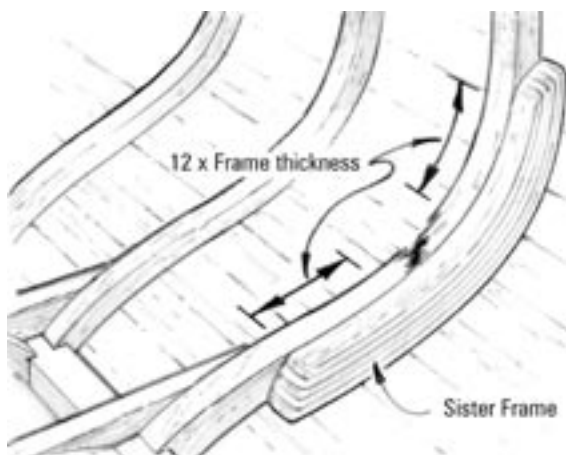

Figure 5-6 Laminate a partial sister frame longer than the damaged area.
1. Laminate a full sister frame slightly longer than the existing frame and trim it to fit tight against the damaged section. Laminate a partial sister frame so that it will extend past each end of the damaged area twelve times the thickness of the frame (*Figure 5-6*). A sister frame may also be carved out of solid wood. Use the same wood as the existing frame.